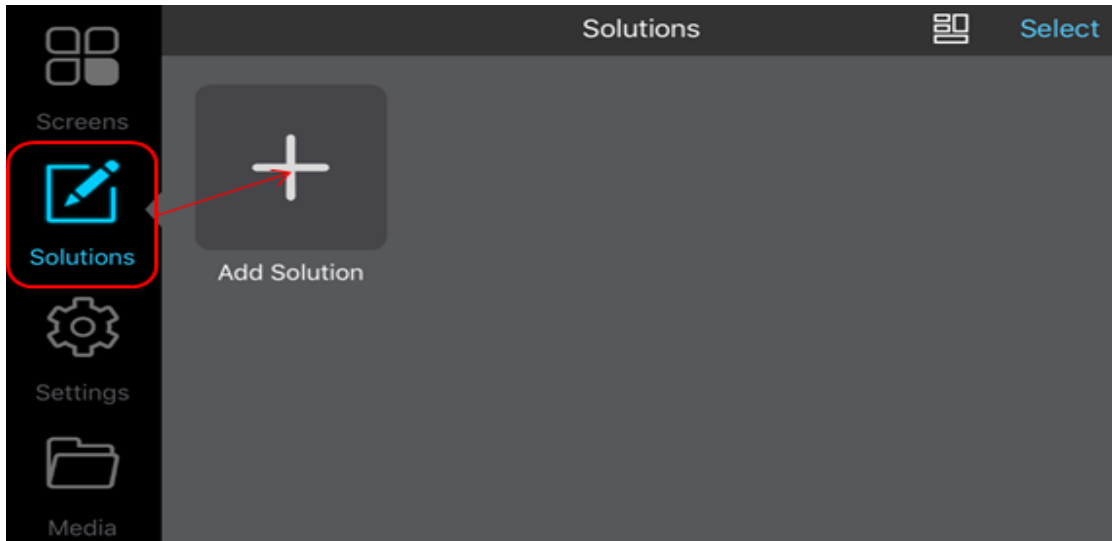

fig 7.15
- Click [Solutions] to add solution to create a new playlist, please refer to fig 7.15.